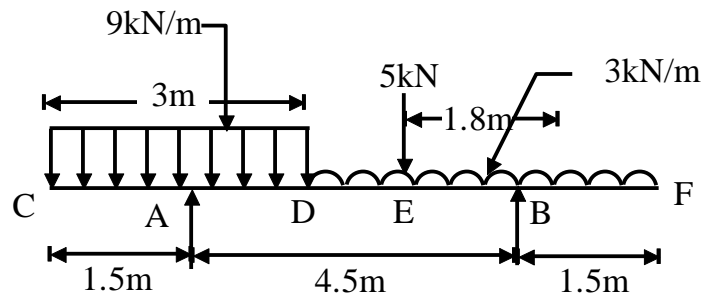

Fig. 3(a)
3. a) Draw the shear force and bending moment diagram for the beam shown in the figure 3 (a). Determine the position in the central bay, at which the positive bending moment occurs. Also find the magnitude of maximum positive and negative bending moment. 8